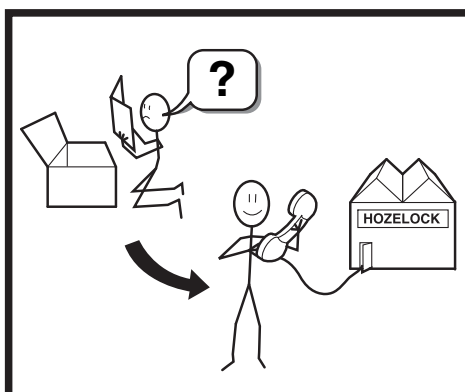

Fig. 1
2. Remove the Wildlife Protection system (Fig 1 – a).
3. Remove & unpack the ball joint, hosetails & outlet adaptor (Fig 1 – b, c & d).
Note: 1000 model: The pump locates into a cradle that is fixed to the lower cage (Fig 1 - g).